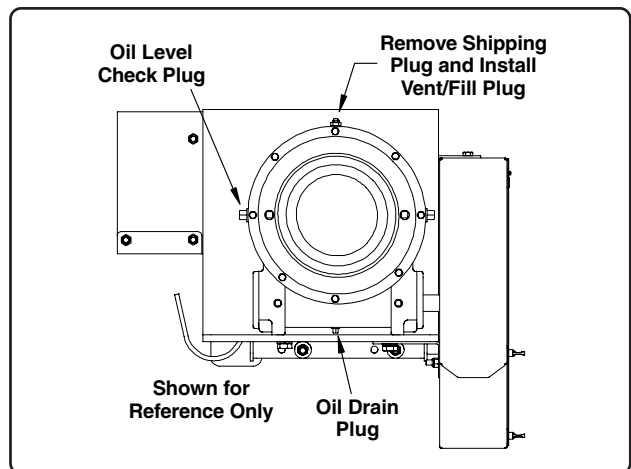

Fig. 16
IMPORTANT! The electric winch is shipped with oil already added to the gearbox. It is necessary to install the vent/fill plug that is shipped with the winch. Remove the plug from the top of the gearbox and install the vent/fill plug (See Fig. 16).
2. Add an **EP 85W140** non-foaming multipurpose gear oil into the top vent/fill plug opening until oil begins to leak from the opening in the side of the gearbox. Reinstall the plugs (See Fig. 16).